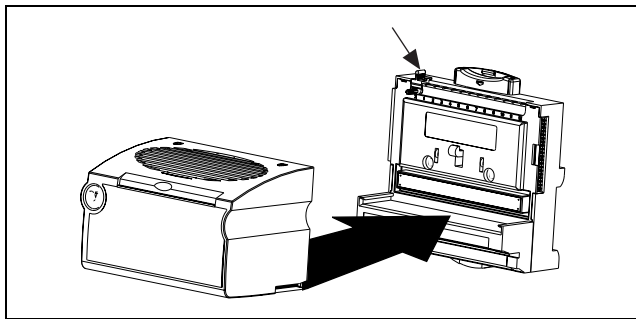

Figure 6. Mounting the I/O Module on the Terminal Base
1. Slide the key to the appropriate position for the I/O module as shown in Figure 6. The position marked X is a universal position that works for all modules.
2. Position the I/O module with its alignment slots aligned with the guide rails on the terminal base as shown in Figure 6.